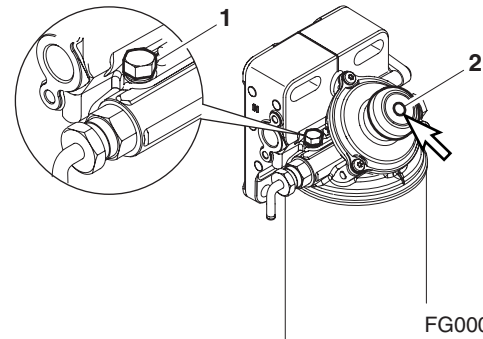

Figure 79
2. Loosen plug (1, Figure 79) on the fuel prefilter head.
3. Pump the hand operated primer pump (2, Figure 79) on the fuel prefilter. Pump primer until fuel is present at plug hole in fuel prefilter head.
4. Tighten plug (1, Figure 79) in fuel prefilter head.